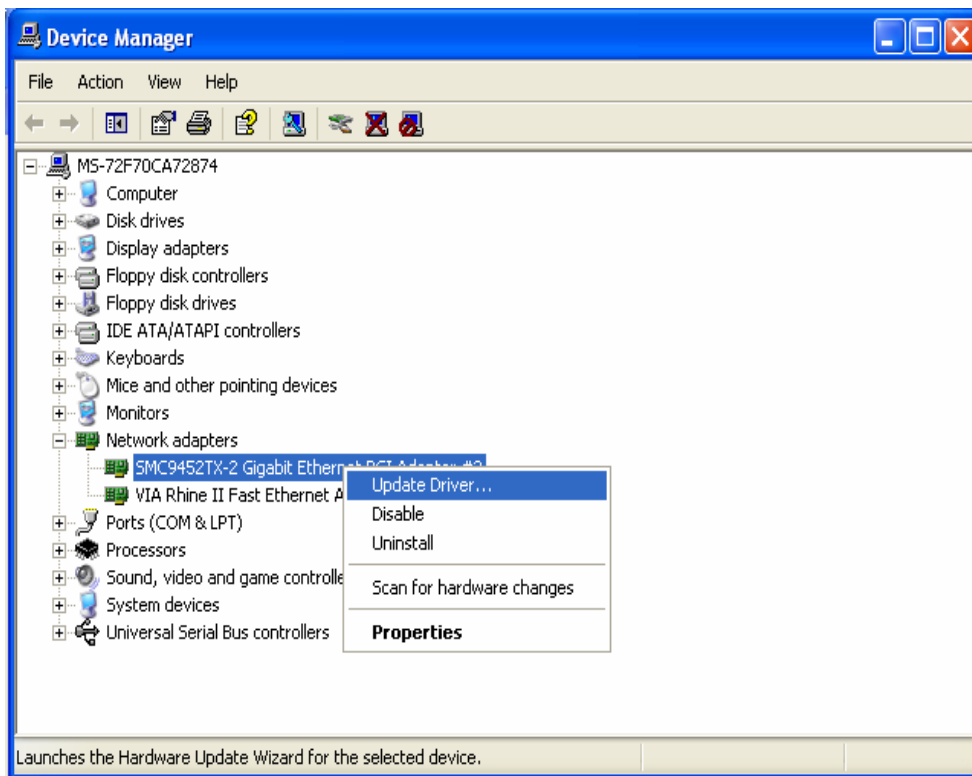

Figure 2-15
Step 2: Select **Hardware** and then **Device Manager** (shown in Figure 2-15).